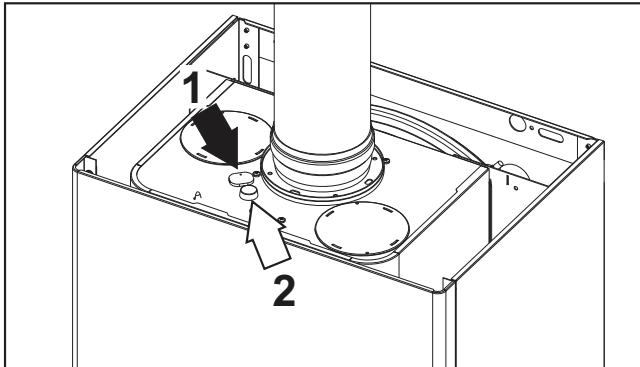

fig. 28 - Fume analysis DIVAtop MICRO LN F 24
Two test points are provided at the top of the boiler, one for fumes (ref. 1 - fig. 28) and the other for air (ref. 2 - fig. 28). To take samples: